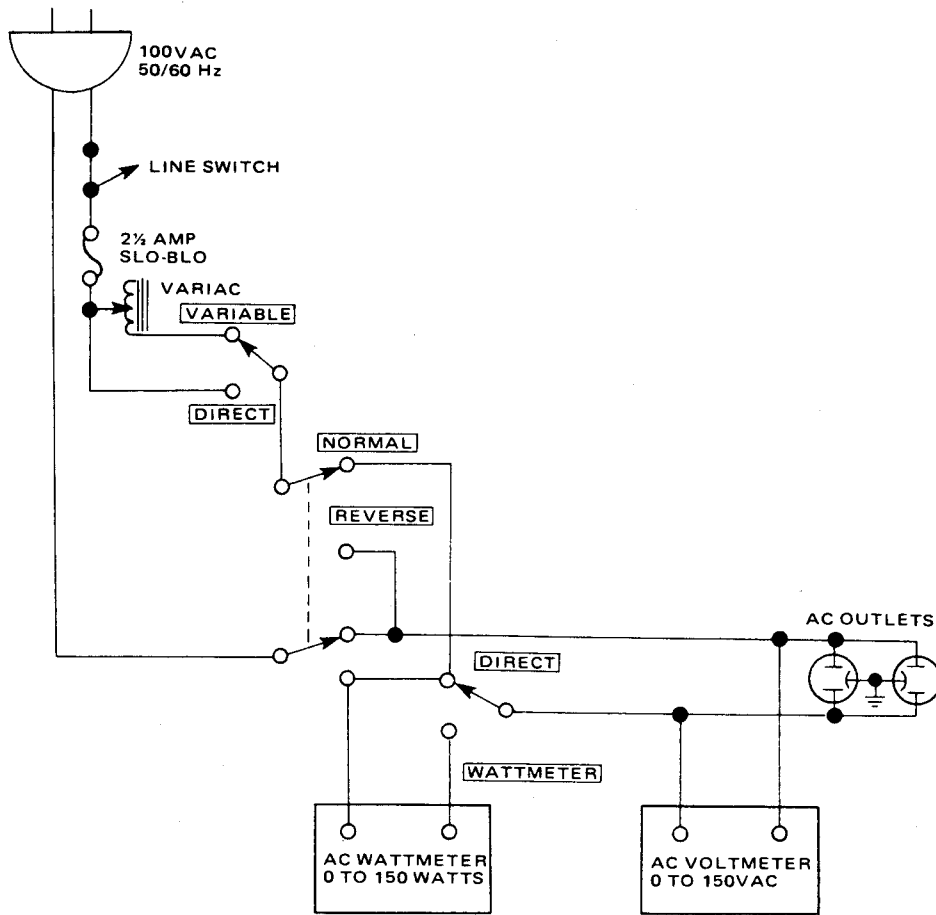
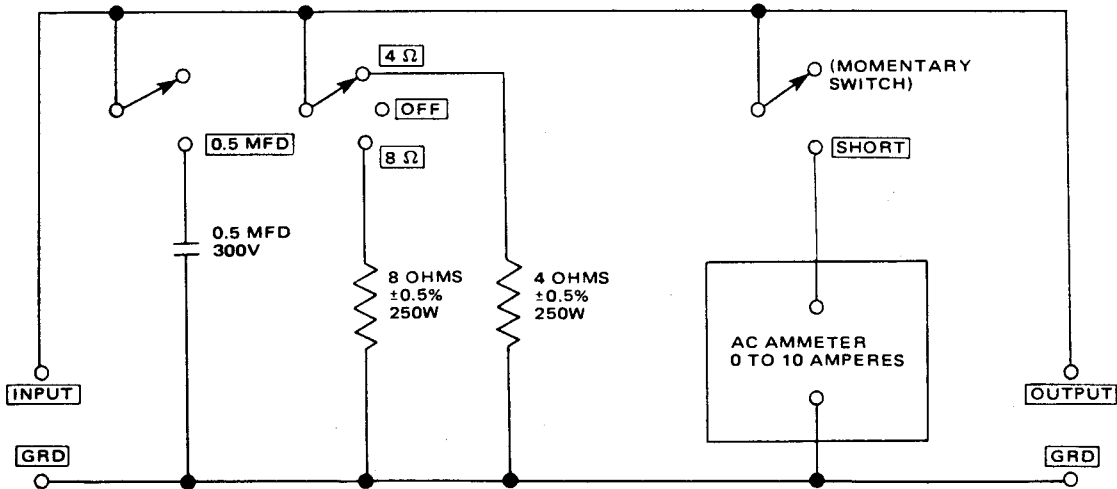

Figure1. AC Power Control Box Simplified Schematic
FIGURE 2. Amplifier Output Load Box Simplified Schematic
Table 1 lists the test equipment required for servicing the Model PM520DC Stereo Console Amplifier. The wattmeter, AC voltmeter, and variable autotransformer may be assembled as a test fixture as shown schematically in Figure 1. The load resistors and AC ammeter may be assembled into a second test fixture as shown in Figure 2.
1. Make the test setup shown in Figure 1 with the instrument controls set in the following positions: